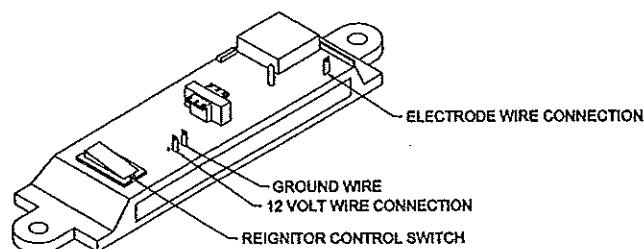

Figure 7
- B.** Make 12 volt D.C. connections to re-ignitor as illustrated in Figure 7.